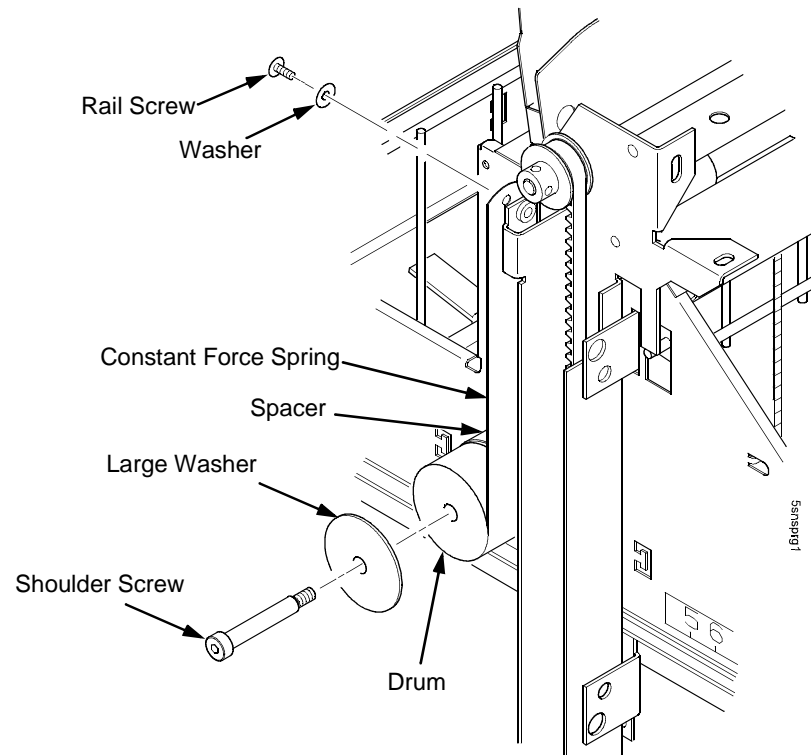

Figure 99. This figure shows how to remove the constant force spring from the stacker assembly.
3. Remove the shoulder screw, washers, and spacer from the constant force spring and drum. Let the spring coil itself up until it reaches the screw that secures it to the vertical rail. (Figure 99.)
4. Firmly gripping the spring and drum, remove the screw securing the spring to the vertical rail. (Figure 99.)